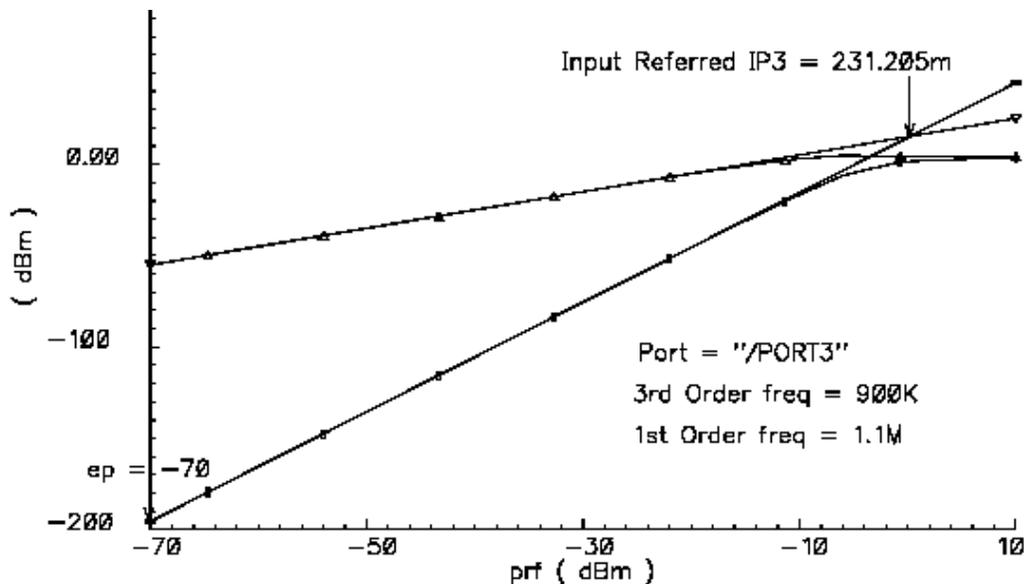

Fig 12: IIP3 using QPSS and QPAC
- *Activate the Schematic Window and click on IF port to view the results as shown in Fig12*